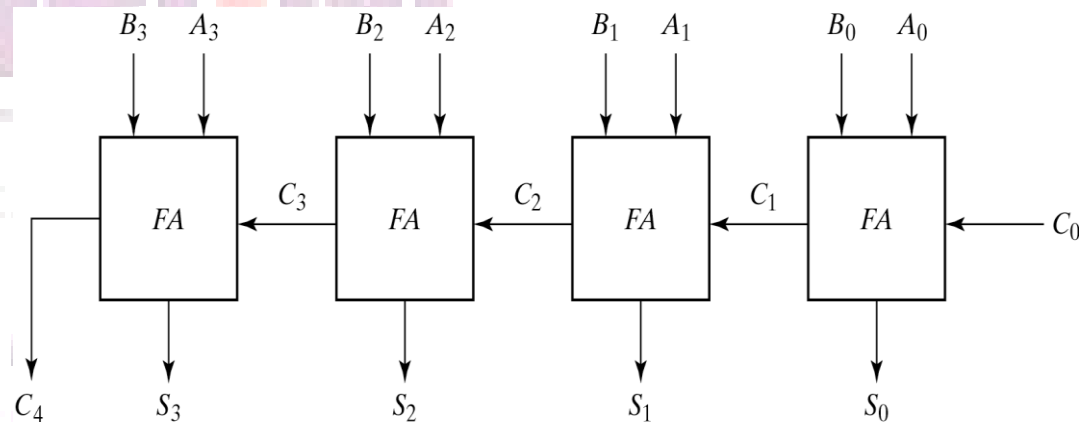

Fig. 4-9 4-Bit Adder
- Fig.4-9 causes a **unstable** factor on **carry bit**, and produces a **longest propagation delay**.